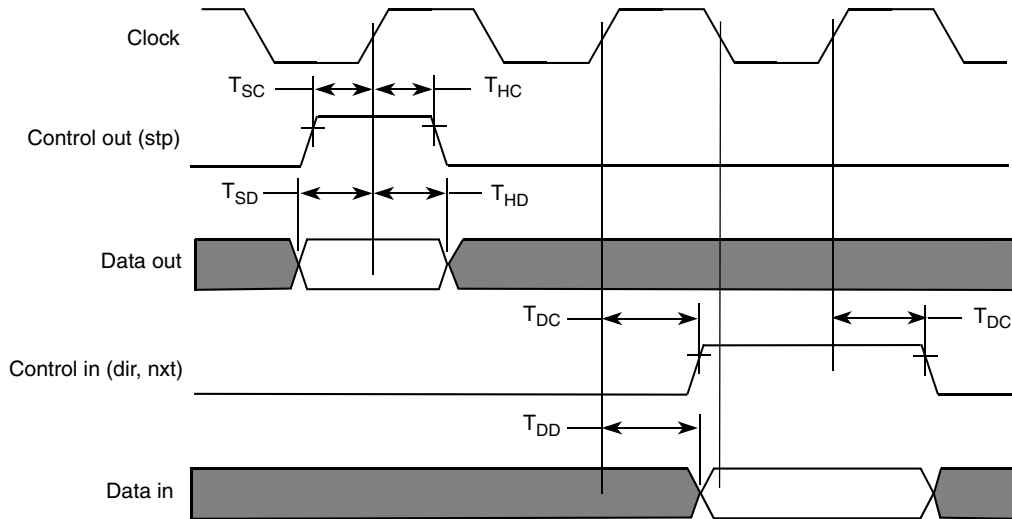

Figure 87. USB ULPI Interface Timing Diagram
The high speed (HS) interface is supported via the ULPI (Ultra Low Pin Count Interface). Figure 87 depicts the USB ULPI timing diagram, and Table 65 lists the timing parameters.